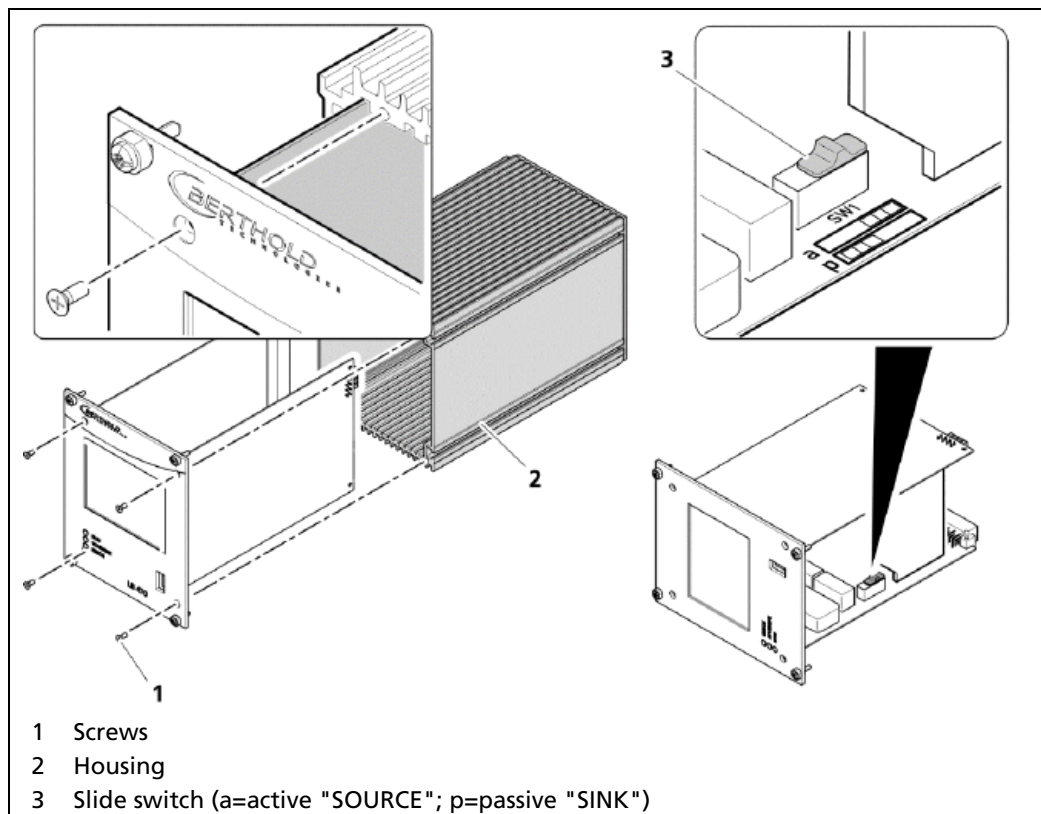

Fig. 15 Switching of the current output
8. Loosen the four sunken screws on the front side of the EVU (Fig. 15, item 1).
9. Pull out the housing (Fig. 15, item 2) carefully.
10. Slide the switch (Fig. 15, item 3) to position **a** for "active" (SOURCE), to position **p** for "passive" (SINK).
12. Screw the front panel to the housing (Fig. 15, item 2) with the four screws (Fig. 15, item 1).